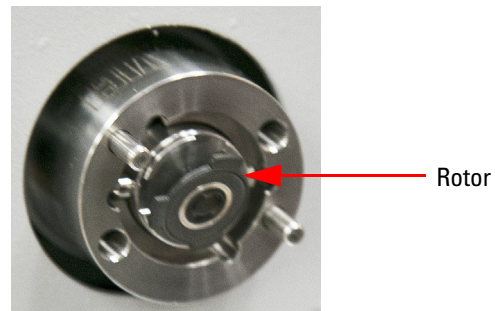

Figure 6-6 Removing the rotor
3. When the stator is removed, use your finger or a small tool to pry the black plastic rotor out of its recess (Figure 6-6).